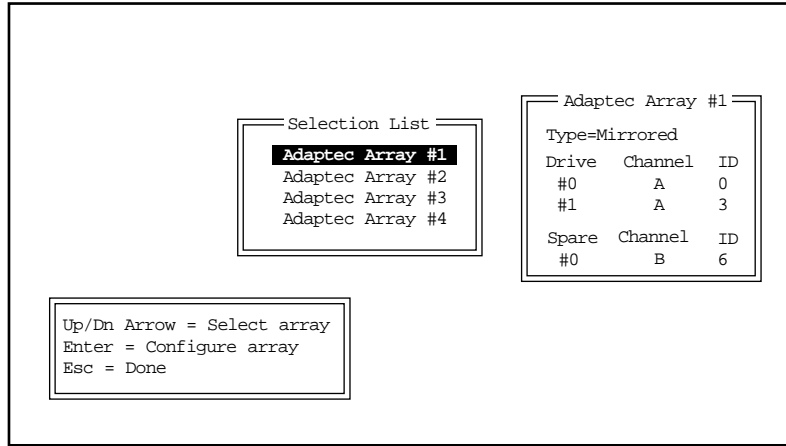

Figure 10-27. Viewing Array Configuration Information
- 2 Select **Add an Array**. The Selection List Menu appears. If you highlight an existing array, information on its configuration appears to the right of the Selection List Menu, as illustrated in Figure 10-27.
- 2 Select **Redefine Array**. The Selection List Menu appears, listing all possible arrays—defined or undefined. If you highlight an existing array, information on its configuration appears to the right of the Selection List Menu, as illustrated in Figure 10-27.